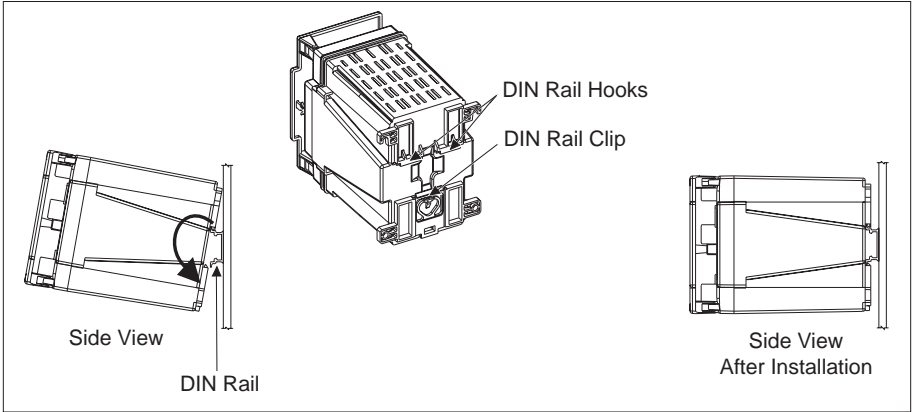

Figure 4-4: Mounting power meter on 35 mm DIN rail
2. Mount a piece of 35 mm DIN rail in the desired location. *Note: The DIN rail must be horizontal.* Position the power meter in front of and slightly above the DIN rail (figure 4-4).